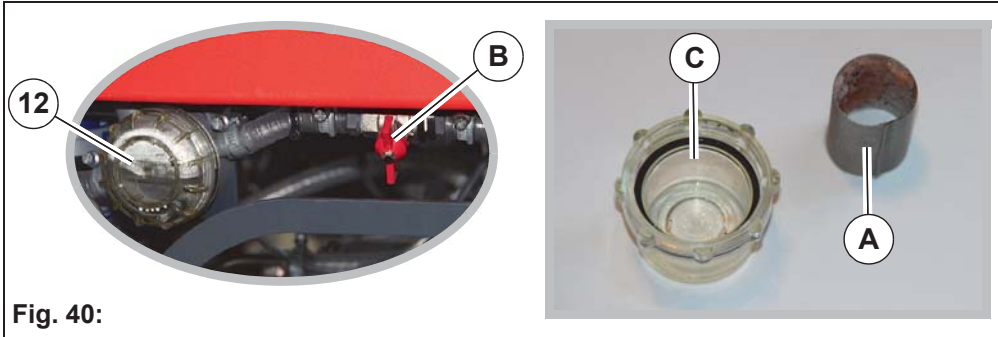

Fig. 40:
Check the filter sieve **Fig. 40-A** of the fresh water filter **Fig. 40-12** weekly and clean or replace it as required.
1. Close the ball cock **Fig. 40-B**.
2. Turn and remove the filter cover **Fig. 40-C**.
3. Remove the filter sieve **Fig. 40-A** from the filter housing and clean it under running water. Replace the filter sieve as required.